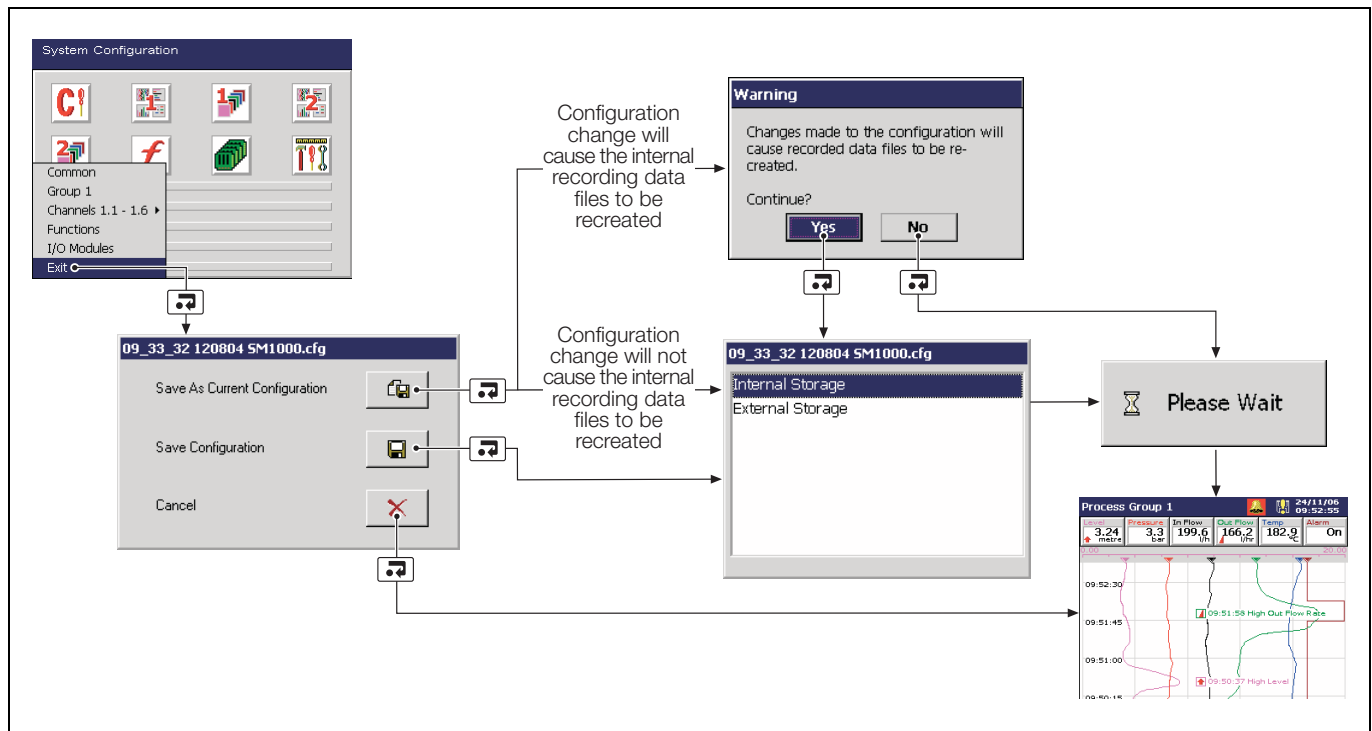

Fig. 4.7 Exiting Configuration Mode
- Changes to the date and time are effective immediately upon selecting 'OK' in the dialog box above. Selecting 'Cancel' upon exiting Configuration Mode (see Fig. 4.7, page 51) **does not** reset the clock to its previous setting. Select 'Cancel' in the dialog box above to exit date and time setup without saving changes.
Note. Changes to daylight saving are effective immediately a method is selected. However, if 'Cancel' is selected upon exiting Configuration Mode (see Fig. 4.7, page 51), the last saved daylight saving settings are restored.